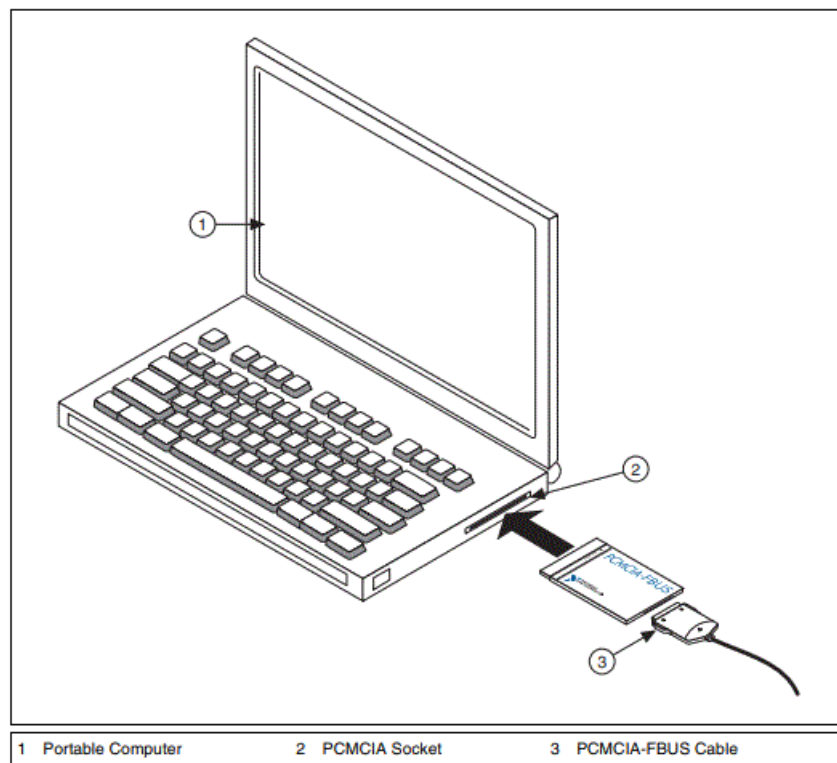

Figure 2. Inserting the PCMCIA-FBUS Card
2. Insert the card into a free PCMCIA (or Cardbus) socket. The card has no jumpers or switches to set. Figure 2 shows how to insert the PCMCIA-FBUS and how to connect the PCMCIA-FBUS cable and connector to the PCMCIA-FBUS card. However, the PCMCIA-FBUS/2 cable has two connectors. Refer to Chapter 3, Connector and Cabling, of the NI-FBUS Hardware and Software User Manual, for more information about these two connectors.